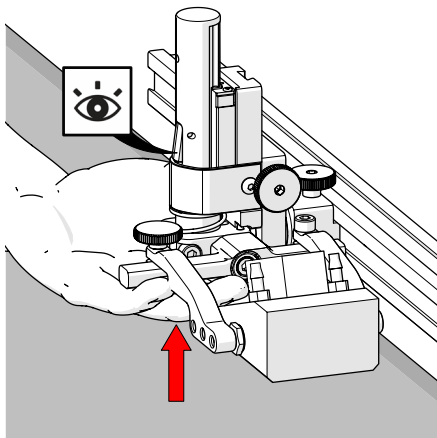
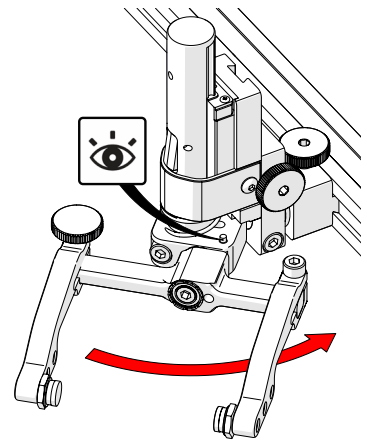

Fig. 95 - Latch probe holder
Fig. 101 - Stop post locates 90°
1. Ensure the probe holder is in the the latched, upper position. Lift the probe holder until the latch is fully exposed and snaps out to lock (Fig. 95).
1. Ensure the probe holder is in latched upper position (*Fig. 95*).
To return the transverse adjustment to neutral (90°). The probe holder must be in the latched, upper position (*Fig. 95*). Rotate the yoke until the stop post contacts the base of the probe holder (*Fig. 101*). Then tighten the transverse adjustment screw.
1. Ensure the probe holder is in latched, upper position (*Fig. 95*).
1. Ensure the probe holder is in latched, upper position (Fig. 95).